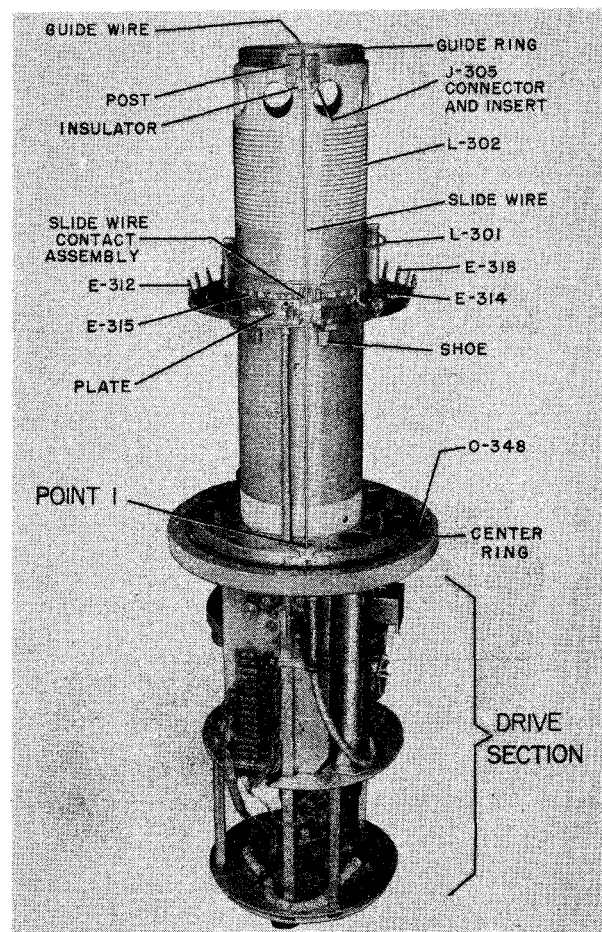

Figure 7-106. R-F Tuner TN-229/SRT, Less Housing
Shock mounts are still mounted to housing, and may be removed at this time, if necessary. Removal of the housing will provide access to all the main coil and sliding short assembly components (figure 7-106).
If trouble location procedures indicate trouble in the impedance transformer switch assembly or the main coil drive mechanism, a step-by-step disassembly procedure must be followed. For component location, refer to figures 7-106, 7-107, and 7-108.
Step 1. Unsolder coaxial cable terminated in slide wire insulator, POINT 1 of figure 7-106.